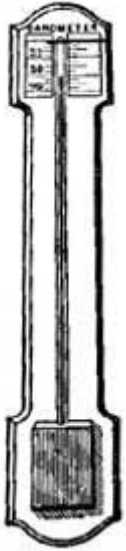

FIG. 44.—A
78. The Barometer. Since the pressure of the air changes from time to time, the height of the mercury will change from day to day, and hour to hour. When the air pressure is heavy, the mercury will tend to be high; when the air pressure is low, the mercury will show a shorter column; and by reading the level of the mercury one can learn the pressure of the atmosphere. If a glass tube and dish of mercury are attached to a board and the dish of mercury is inclosed in a case for protection from moisture and dirt, and further if a scale of inches or centimeters is made on the upper portion of the board, we have a mercurial barometer (Fig. 44).